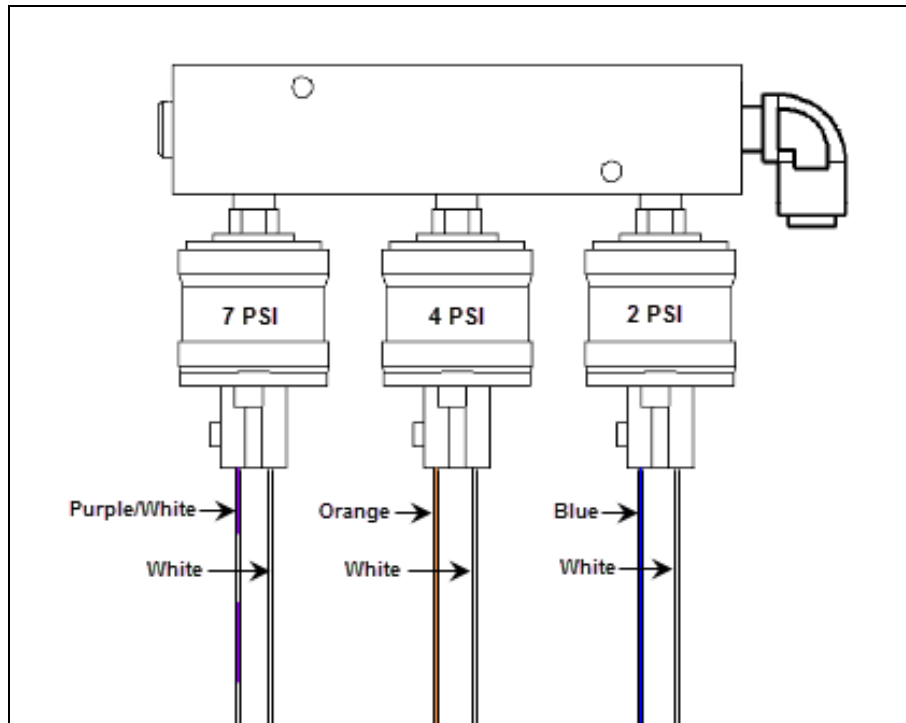
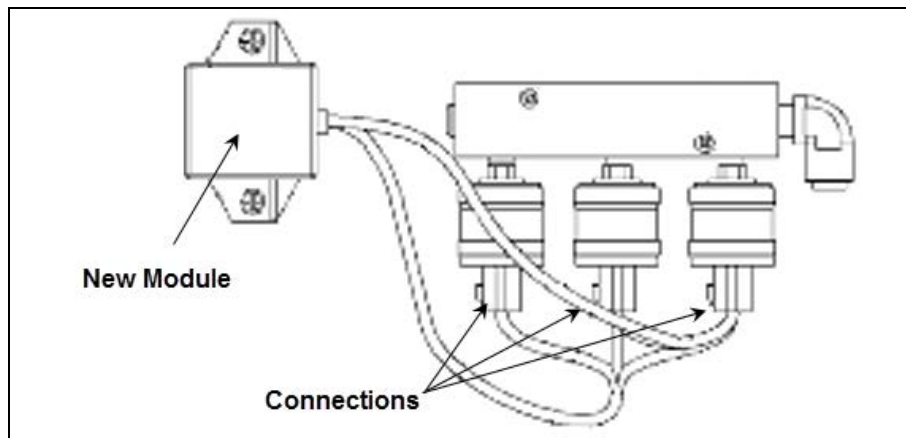

Fig.6 Color identification of the connectors
Fig.7 New module connected to pressure switches
6. Install the new pressure switch module (part # 562381) in place of the previously removed module using the two (2) new # 5001245 Hex head screws.
7. Connect the three (3) pressure switches to the new module (Fig.6 and Fig.7).
The three pressure switches connectors are identical. Be sure to connect them to their respective pressure switch to ensure correct retarder function. Refer to the connector wire color code shown in Fig.6 for proper connection of the module to the switches